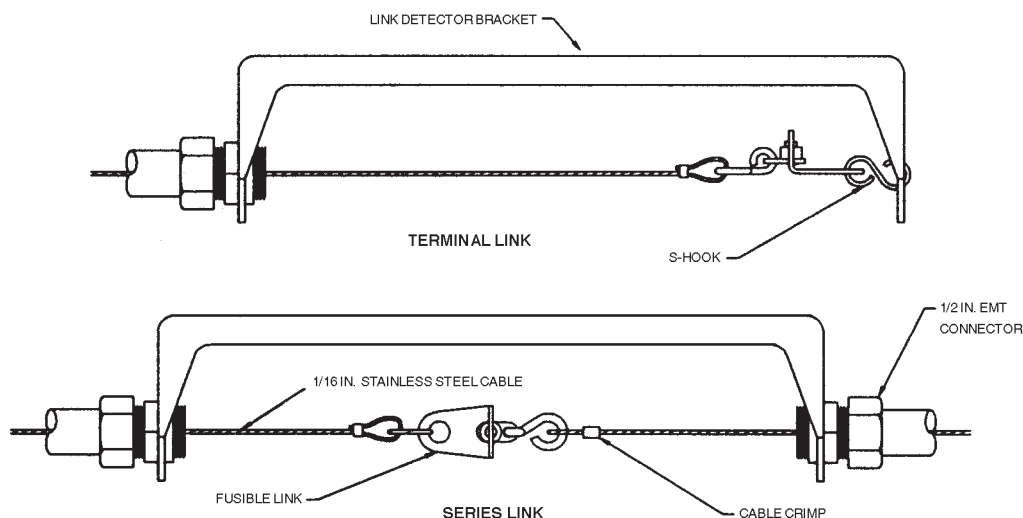

Figure 2-9a. Model FLK-1 Fusible Link.
- steel bracket, two (2) 1/2 in. EMT connectors, two (2) cable crimps, and two (2) “S” hooks. Fusible links must be ordered separately. See **Figure 2-9a**.
- steel bracket, two (2) 1/2 in. EMT connectors, two (2) cable crimps, and two (2) “S” hooks. Fusible links must be ordered separately.